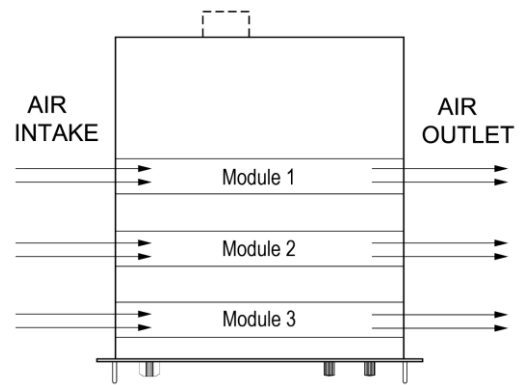

fig 10-1
- The airflow direction is from left to right (see fig. 10-1).